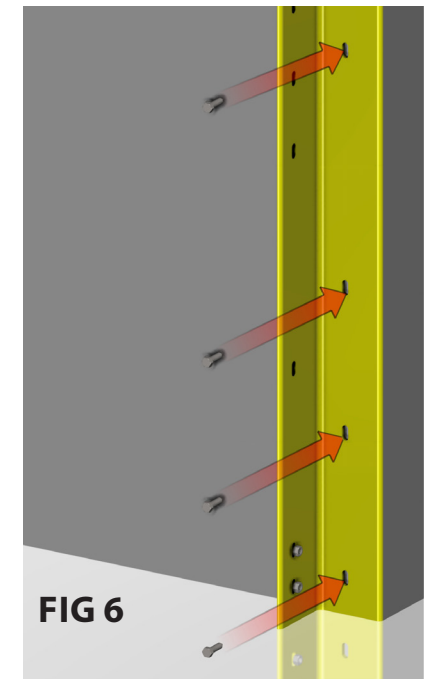

FIG 6
- Install the wall anchors mounting the wall guides to the wall as shown in **FIG 6**.